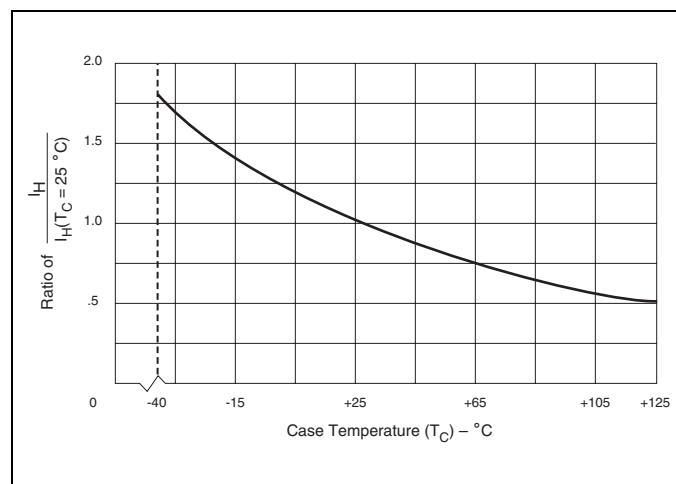

Figure E9.2 Normalized DC Holding Current versus Case/Lead Temperature
- See Figure E9.2 for  $I_H$  versus case temperature.